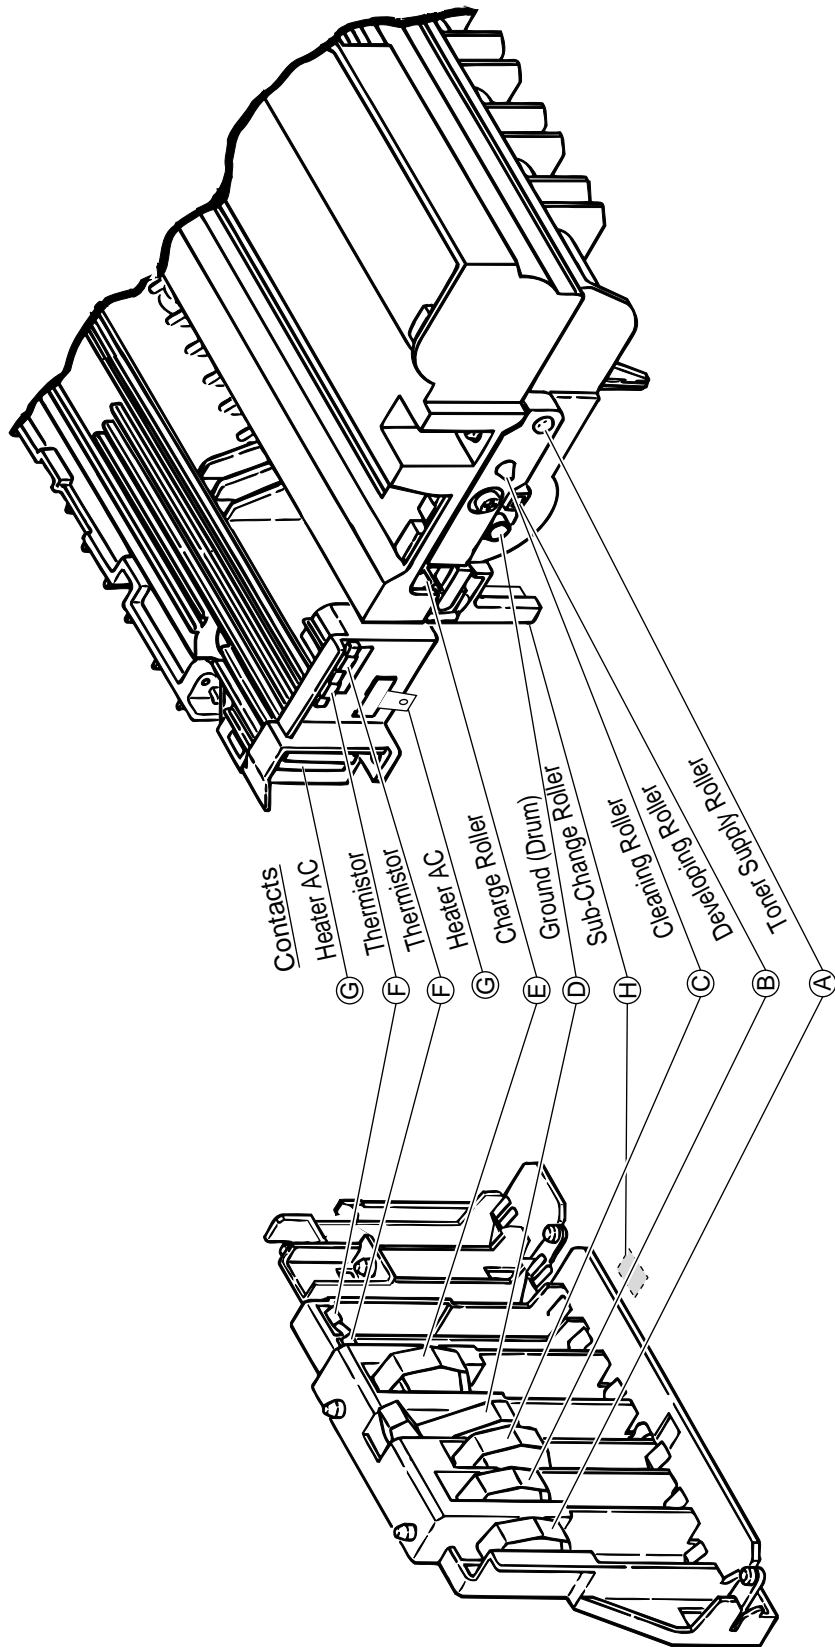

Figure 6-4
- ▼ Yes Check the heater connector cord and the heater contact for poor contact (see Figure 6-4 contact ㉔).
- ▼ Yes Are the contact of the developing roller and the contact of the toner supply roller of the image drum cartridge in contact with the contact assembly properly (see Figure 6-4 (A) and (B))?